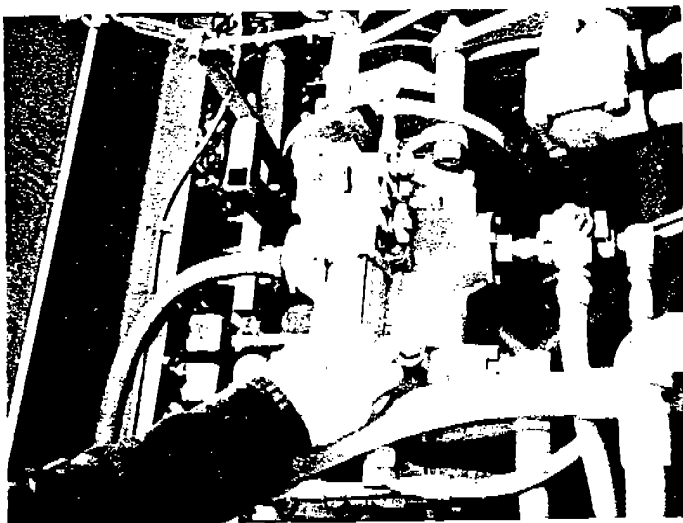

Figure 1
1. *Orifice in the control head plugged.* Remove the orifice (Fig. 1) and clean it. **DO NOT OPERATE RIDE WITH ORIFICE REMOVED.**
1. *Restricted orifice. Remove and clean.* (See Fig. 1)